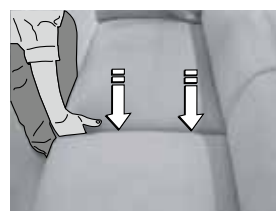
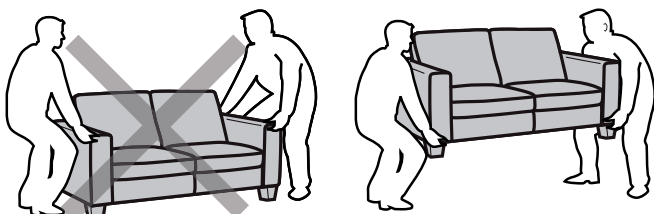

Fig. 7
Fig. 6 Fig. 7
Avoid the concentration of folds at the centre of the seats. **Fig. 7**
- avoid moving the sofa by dragging or lifting by the armrests: the correct way to move the sofa is by lifting it from the base. **Fig. 6 Fig. 7**